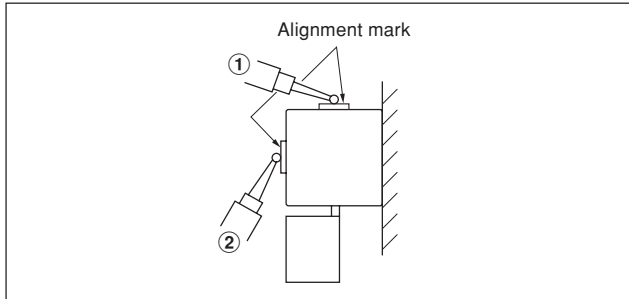

Fig. 3-7 Parallelism check of scale and machine table movement
(4) Measuring parallelism of scale with machine table movement
Place a dial gauge directly where the alignment mark (Fig. 3-7 ① in the figure below) is positioned on the side of the scale, and check that the scale is surely mounted parallel to the machine table movement.
(5) When the specified parallelism for the scale mounting bracket is not obtained
Insert spacers below the feet and make adjustment by placing a dial gauge at ② in Fig. 3-7 to adjust the parallelism to within 0.15 mm (0.006") throughout the length between may be obtained at the alignment marks.